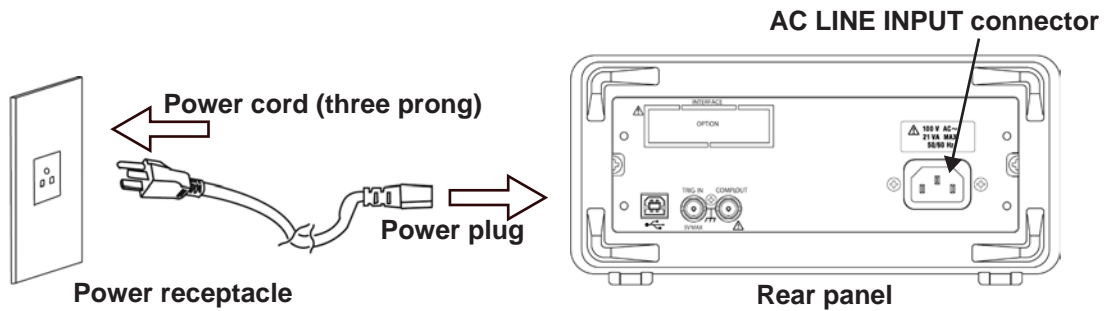

Figure 2.2 Connecting the power cord
- 2 Insert the plug of the supplied power cord into the AC LINE INPUT connector on the rear panel (see Figure 2.2).